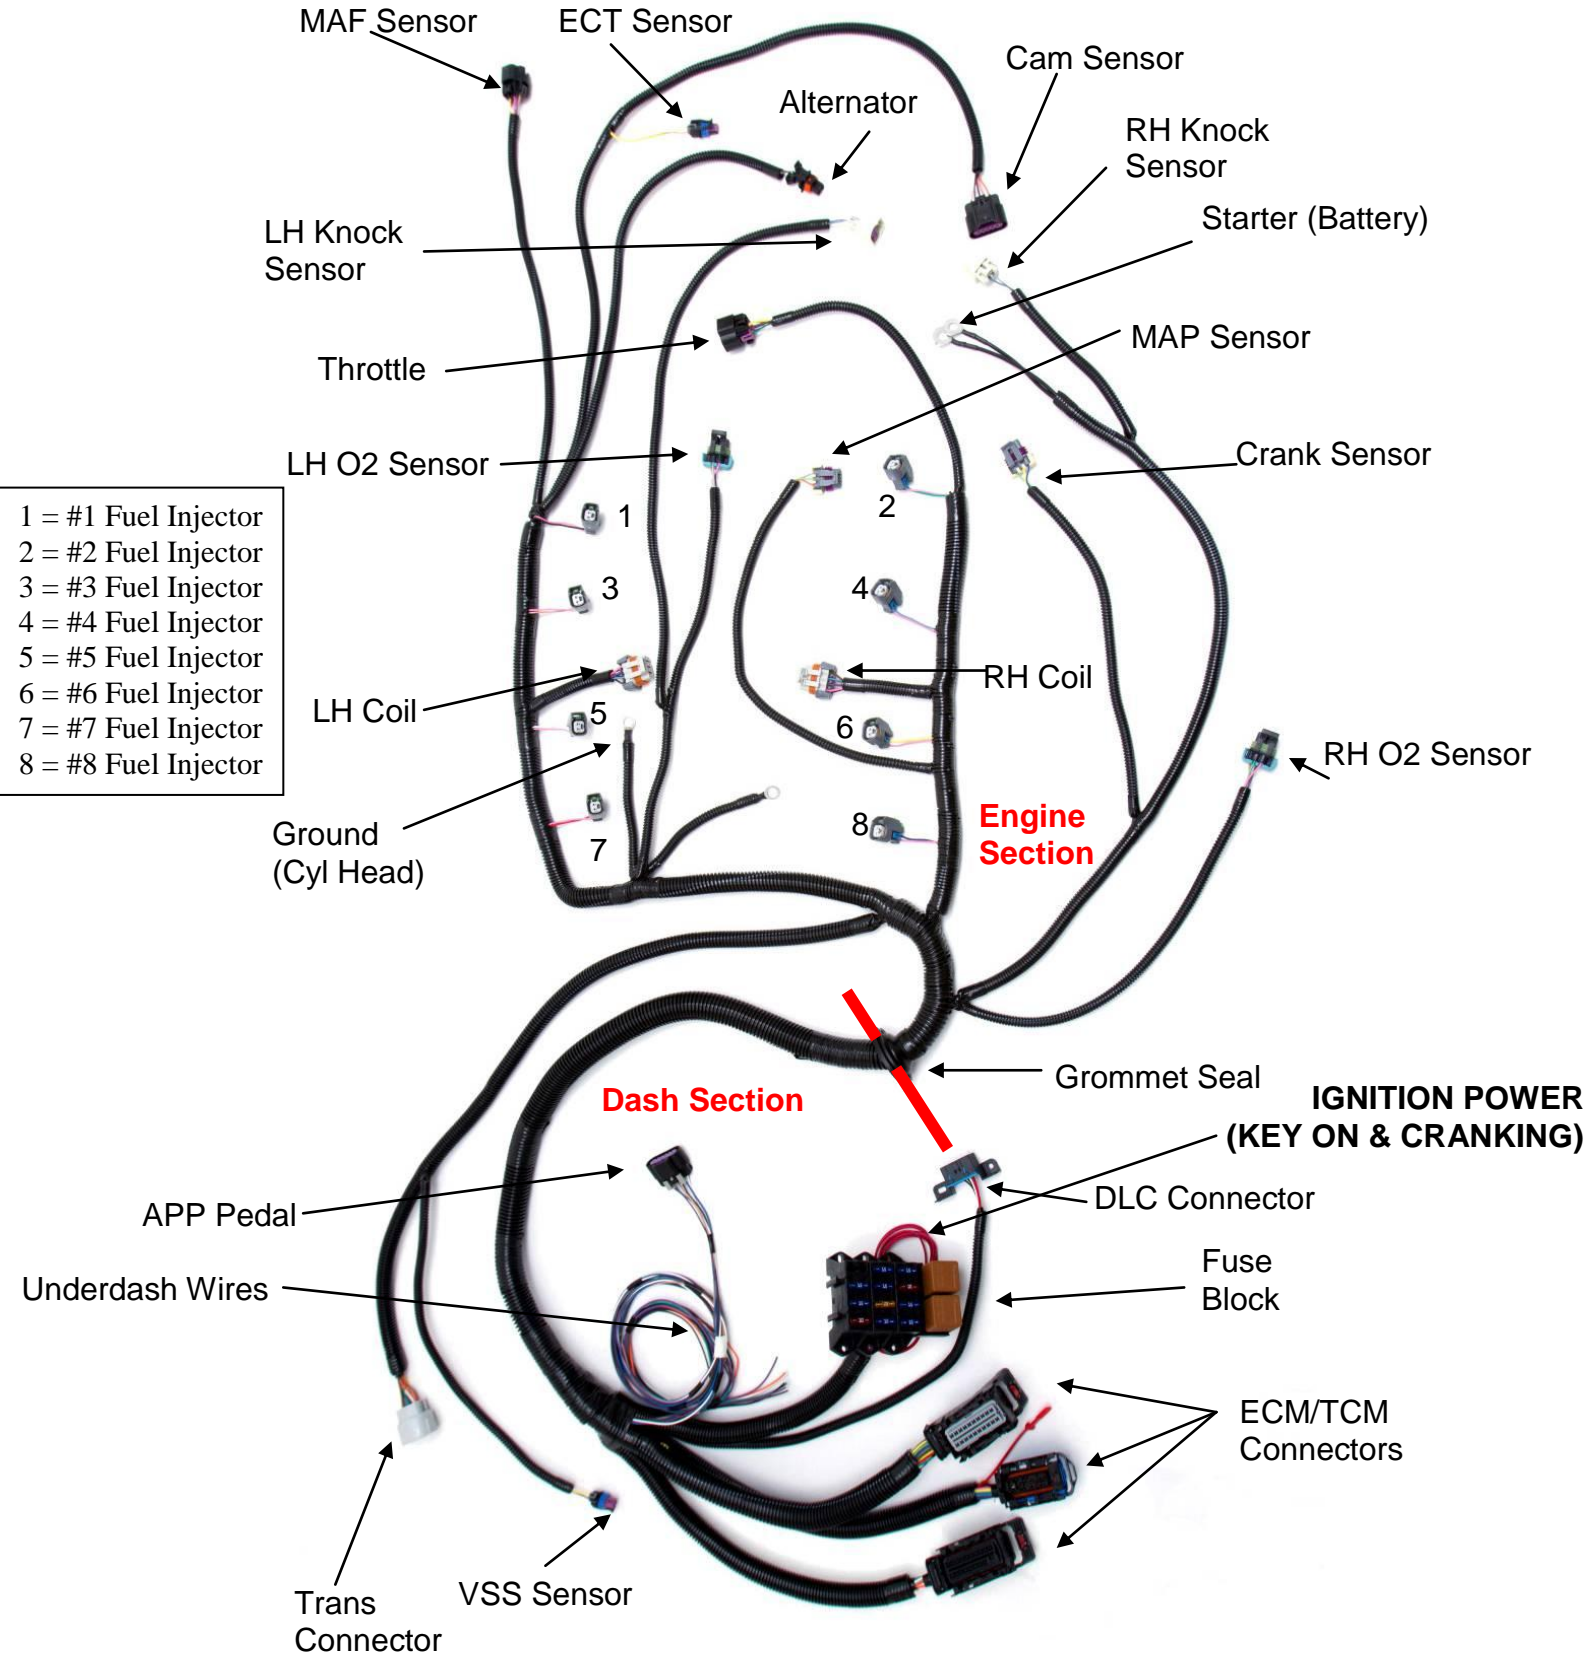

Figure 1
This harness was designed with the intent of ECM/TCM mounting in the passenger compartment (e.g. glove box, or under dash). This fuel injection harness has two sections, the Engine Compartment Section, and the Dash Section, reference Figure 1 below. Note that the Engine Compartment Section is on one side of the Grommet Seal and the Dash Section is on the other side.
- 5.6 Familiarize yourself with the harness by locating each of the harness sections and by looking at the connectors on the wire ends, reference Figure 1.
- 6.3 Route the engine compartment section to the top of the engine. The engine section is designed to be separated into left side (driver) and right side (passenger) sections, in much the same way as factory wiring. Each side is wire loomed separately, BUT IS NOT LABELED. The driver side of the engine section is longer, and has the connectors for the CAM, MAF, and ECT Sensor, reference Figure 1.
- 6.9 Route the underdash wires, Figure 1, to the driver side of the dash.
- 7.1 Locate the black wires in the driver side group that end in two, large ring terminals and ground them to the engine, Figure 1. (Commonly to the rear of the driver side cylinder head).
- 7.2 Using Figure 1 and specific connections indicated in Table 3 connect the wiring as directed.
Table 3 – Engine Compartment Connection Checklist (Reference Figure 1)
8.1 Using Figure 1 and specific connections indicated in Table 4, connect the wiring as directed. All connections in Table 4 are required unless otherwise noted.